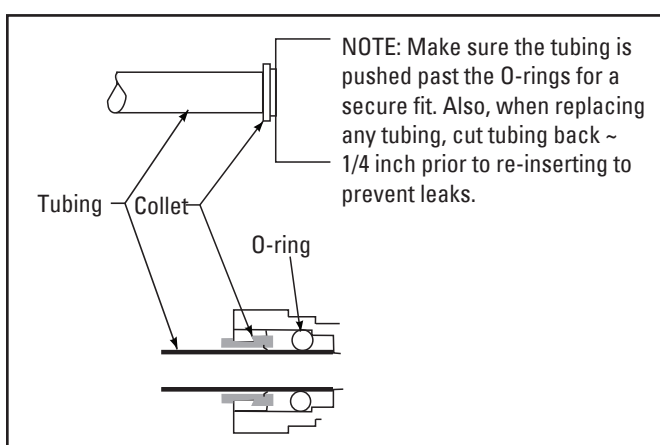

Figure 6
- A) Determine the length of plastic tubing needed to connect the inlet (left) side of the filter with the inlet supply adapter installed on the cold water supply line. Be sure to allow enough tubing to prevent kinking and cut the tubing squarely. Place a mark 5/8 inch from one end of the tubing. Wet the end of the tubing. Insert the end of the tubing into the 1/4-inch fitting of the inlet supply adapter. The 5/8-inch mark should be flush with the collar of the fitting located on the inlet supply adapter (Figure 6).
NOTE: Ensure that all tubing ends are fully pushed past the O-rings on the system inlet/outlet and inlet adapter fittings (Figure 6).